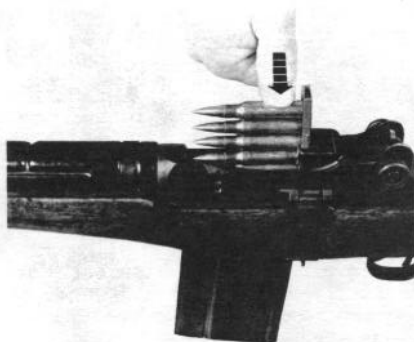

Figure 28. Loading the magazine with a 5-round cartridge clip (magazine in rifle).
b. A magazine in the weapon can be loaded through the top of the receiver with a 5-round cartridge clip. To do this, place either end of the clip in the cartridge guide, then exert pressure with the thumb or the open end of the combination tool on the top round, forcing 5 rounds into the magazine (fig. 28). Remove and discard the cartridge clip. Repeat the process until the magazine is loaded.